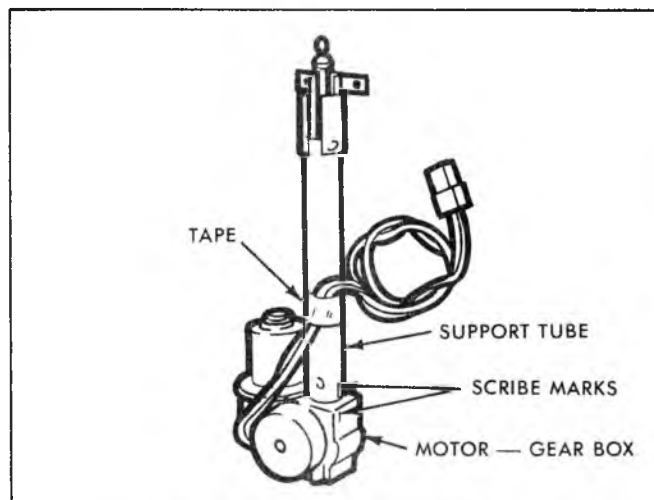

Fig. 9-12R-Scribing Support Tube
2. Scribe a reference mark on the mast support tube and casting to insure correct installation of replacement part (fig. 9-12R).
4. Remove the two (2) screws that attach support tube to gear box and separate the tube from the gear box.
4. Reattach leads to support tube with tape (fig. 9-12R) and reinstall flexible shield as required.